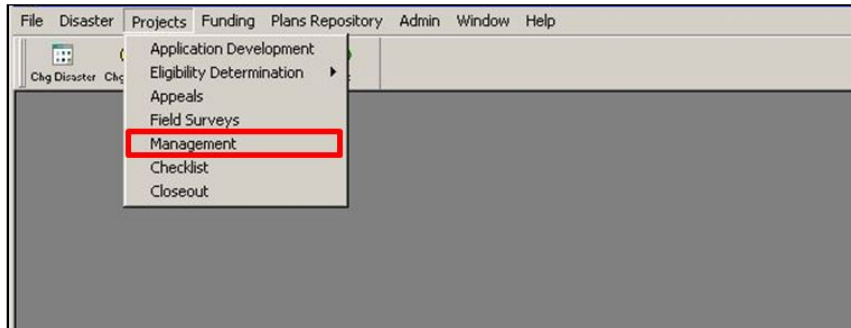

Figure 10-59: Mitigation > Projects > Management
- a. On the MITIGATION menu, click on Projects > Management (Figure 10-59).